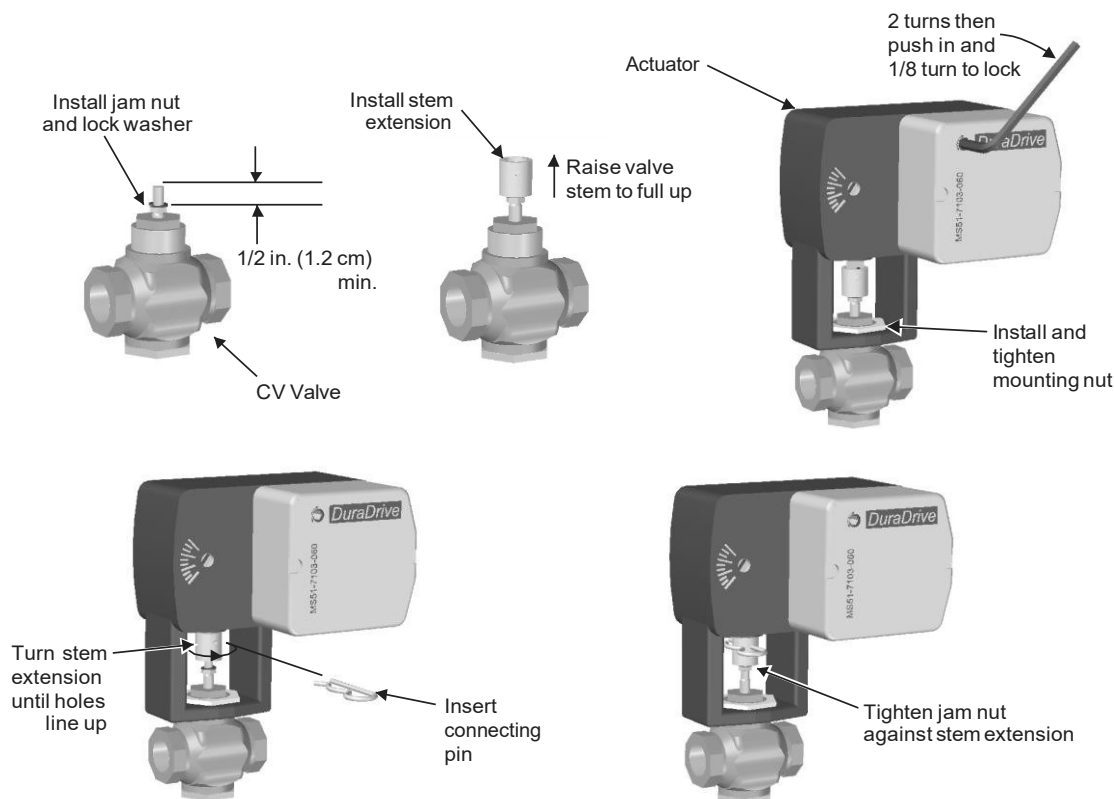

Figure 11: Schneider - CV Valve Actuator Installation
- Install the CV valve actuator following the procedure in Figure 11: CV Valve Actuator Installation after the CV valve is installed on the steam line. Wire the actuator as described in CV Valve Actuator Wiring on page 30.